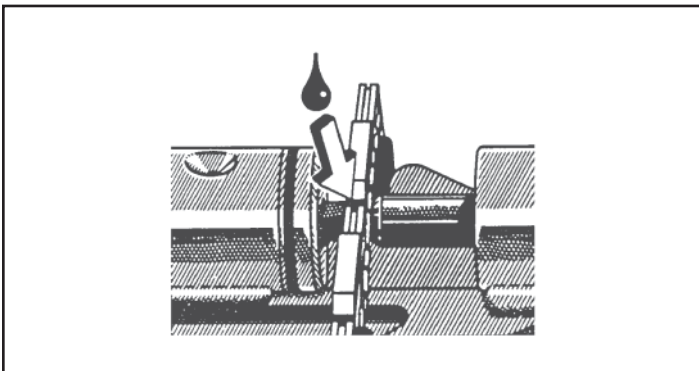

Figure 21. Applying the Oil
5. Apply a few drops of oil to the rivet hub (Figure 21).